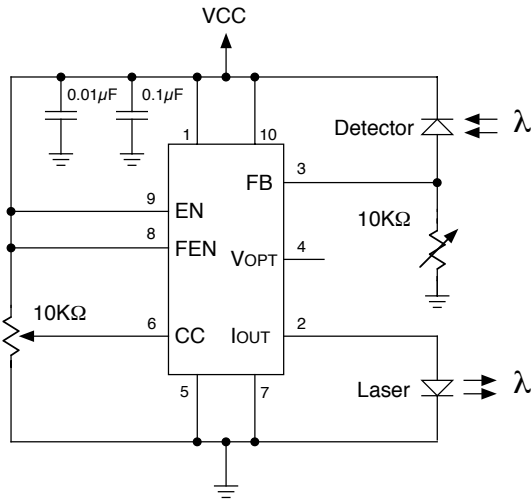

Figure 1
The DN6330 can be used in Constant Current Mode or in Constant Power Mode. In Constant Current Mode, a programing voltage applied at Pin 6 , the Current Control (CC) input, sets a constant current out[ut to the Laser Diode which does not vary with changes in Load (the supply voltage VDD must be constant) . In the Constant Power Mode, the feedback current from a laser's backfacet photodiode (normally reverse biased as shown in Figure 1) is used to adjust the HY633 output current to help oppose reduction in laser diode light output caused by aging.
Feed from the laser's reverse biased backfacet photodiode is connected to Pin 3, the Optical Feedback Input (FB). The input resistance of this input to ground is 20K Ω . Current feedback can vary widely from microamps to milliamps for different laser diode modules. Therefore, the voltage presented to Pin 3 usually must be adjusted with a parallel resistance to ground (Figure 1).
1. Connect the HY6330 as illustrated in Figure 1 (Pin 8 and Pin 9 are connected to VDD).
2. Starting at zero volts, Increase the Input Control Voltage (CC) to Pin 6 until the desired Light output from the laser Diode is achieved.
3. Enable the Feedback (FB) control by grounding (EN) Pin 8.
4. Using the 10K Ω potentiometer from Pin 3 to ground Figure 1 attenuate the feedback voltage at Pin 3 until the light output is reduced by the amount predicted by the Laser Manufacturer over its expected life. For example, if the expected aging light reduction is given as 15 %, reduce feedback voltage until laser diode light is reduced by 15 % to 20 %.
5. Increase the Current Control Input (CC) Pin6 until the desired light output is restored.